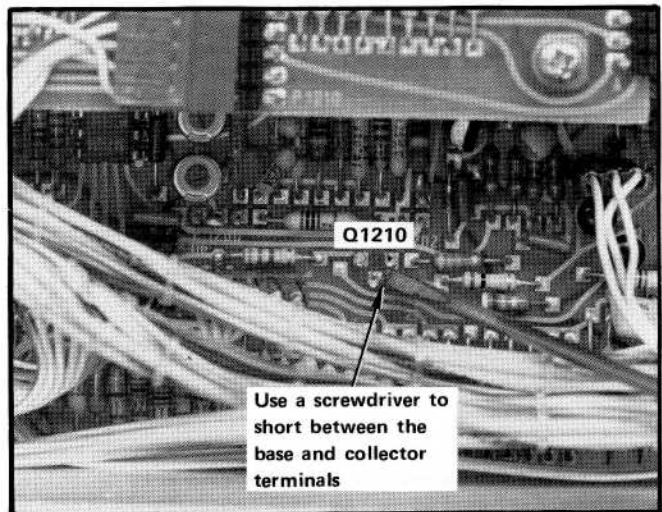

Fig. 4-3. Base to collector terminals for Q1210.
i. Switch the display mode to 2 dB/DIV. Turn the BASELINE CLIPPER fully ccw. Pull transistor Q1210 (Fig 4-3) and use a screwdriver with a small blade to short between the base and collector terminals. This pulls the collector terminal to ground potential and disables the sweep so a reference near center screen is provided.